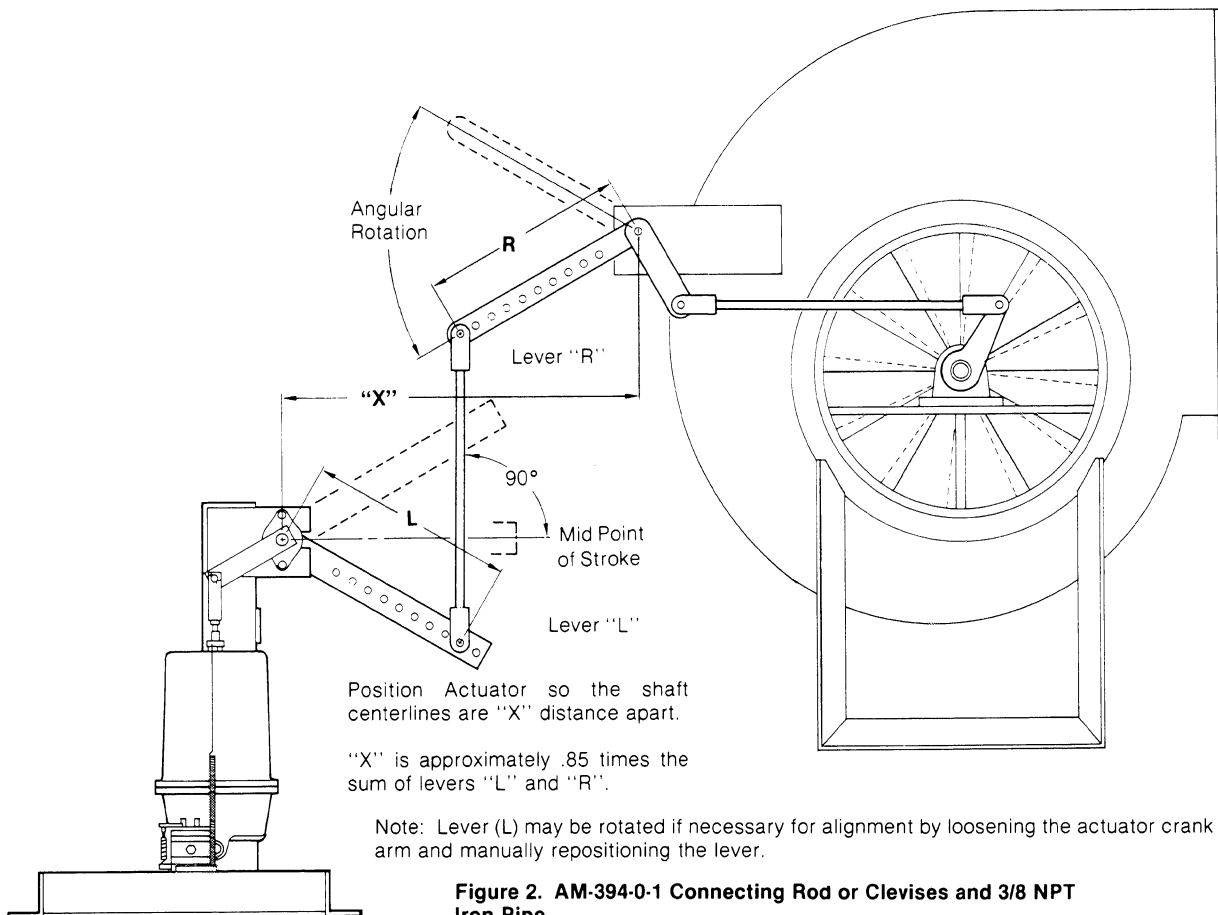

Figure 2. AM-394-0-1 Connecting Rod or Clevises and 3/8 NPT Iron Pipe.
1. Length of lever (L) Fig. 2, or
2. Length of lever (R) Fig. 2, or
3. Angular rotation of driven lever (R).